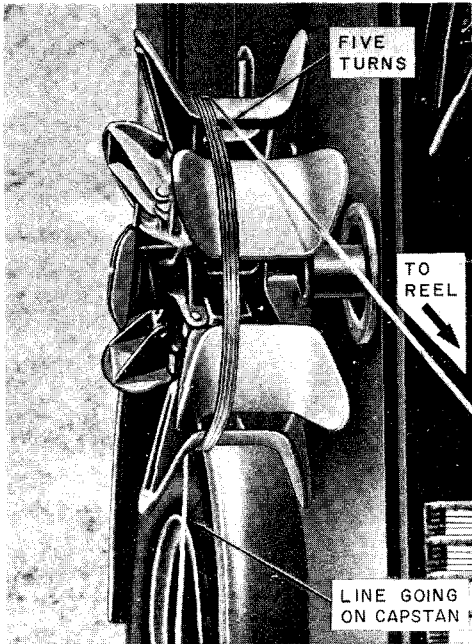

Fig. 14—Power Reel Used as Capstan
6.04 Using the Power Reel as a capstan, place five turns of line around the reel starting from the outer bottom edge, as shown in Fig. 14. Make sure that the angle of the line going on the Power Reel is as shown in this figure; otherwise, the line may not come off the reel properly.